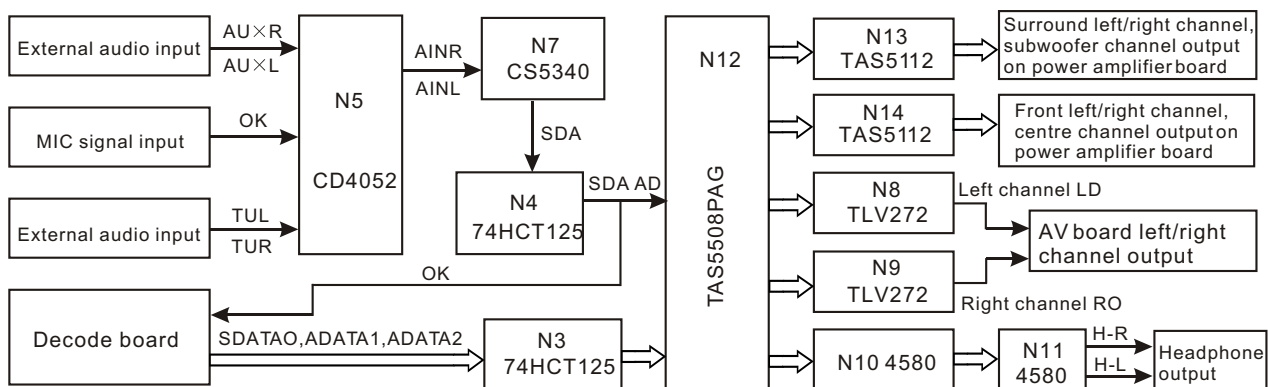

Figure 3.2.7.1 Audio power amplifying circuit block diagram
1. Audio power amplifying circuit block diagram is shown in the following figure 3.2.7.1: